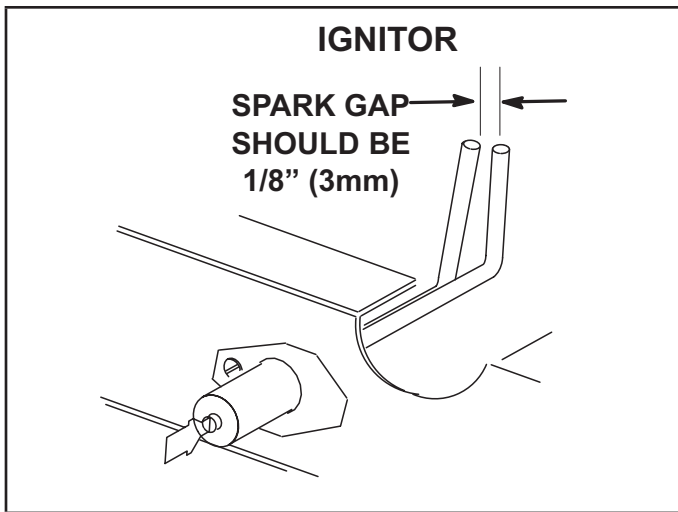

FIGURE 36
- 4 - Locate the ignitor under the left burners. Check ignitor spark gap with appropriately sized twist drills or feeler gauges. See FIGURE 36.